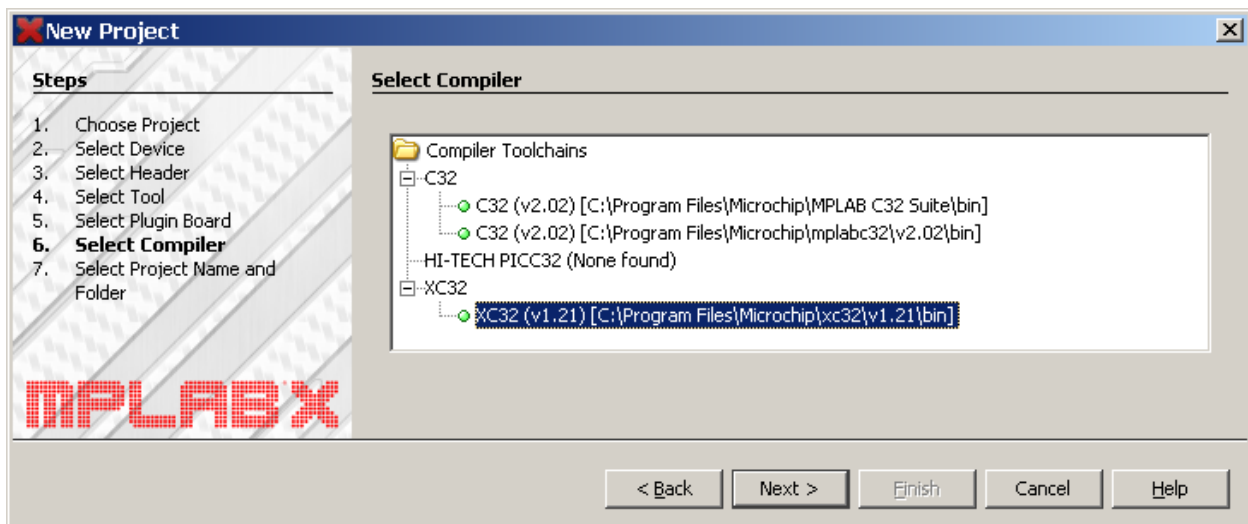

Figure 9. Step 6 for selecting the C compiler
- G. Step 6 enables the selection of the C compiler to use from the list of C compilers found on the PC that you are currently working on. Figure 9 shows that this particular PC has both the C32(v2.02) compiler and the XC32(v1.21). This project will use the XC32 compiler. Click on the **Next>** control to continue to the final step.